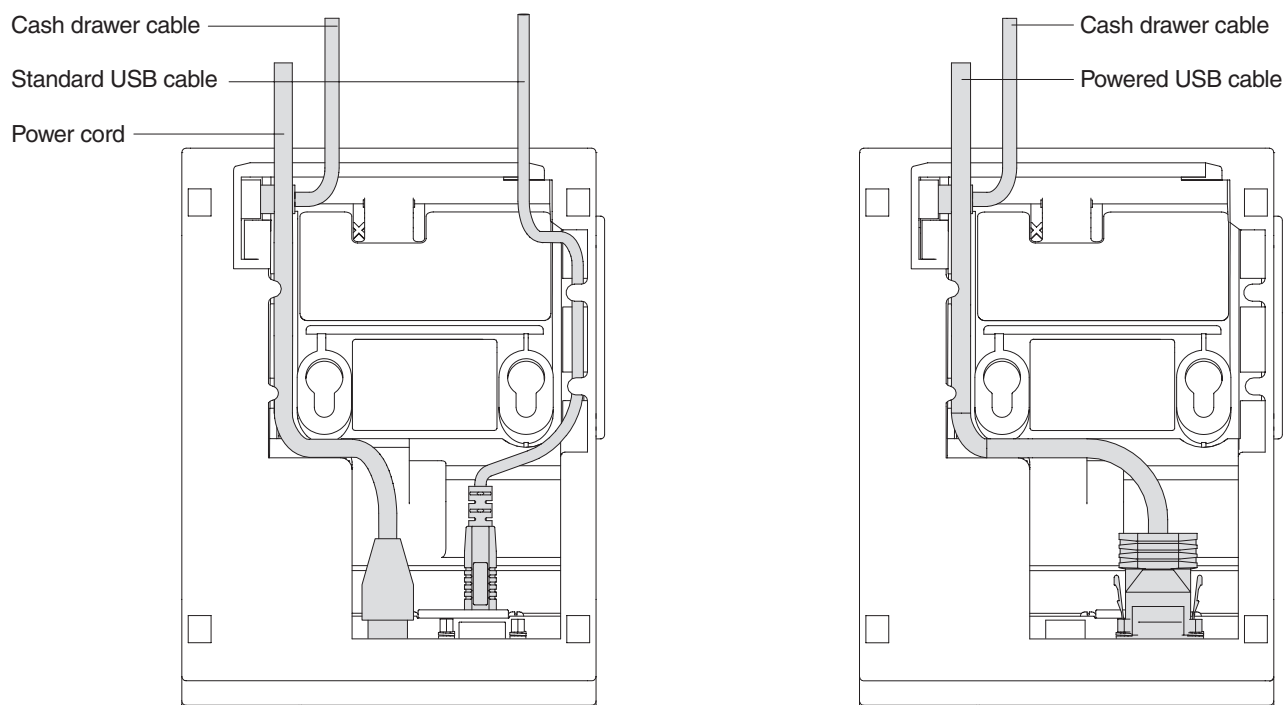

Figure 11. USB Cable Routing for Single-Station SureMark Printers
3. For single-station printers, route any power cord and cables as shown in Figure 11.